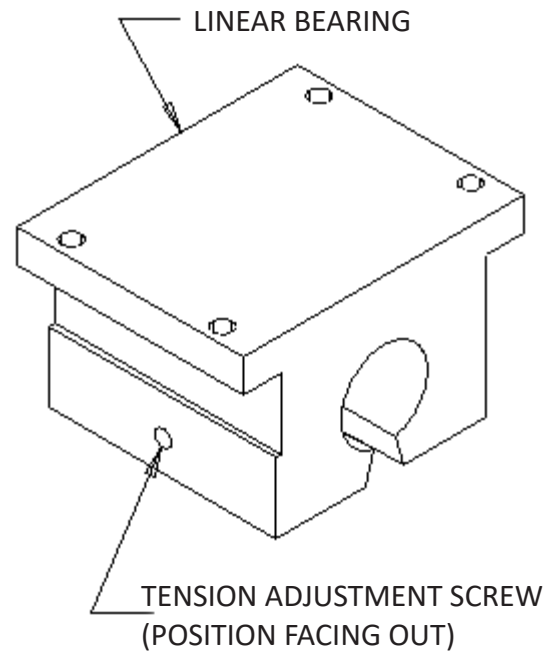

FIG. 3
3. Insert a new linear bearing onto the end of the carriage shaft with the tension adjustment screw pointing outward. See FIG. 3.